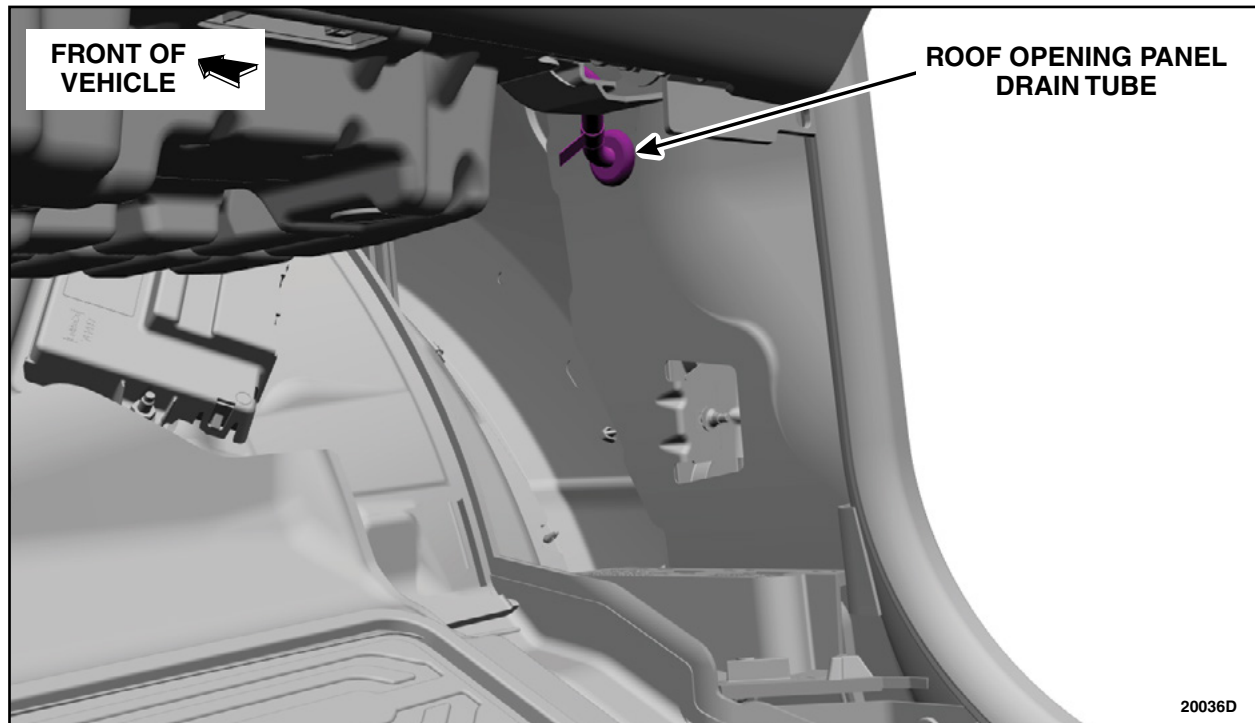

FIGURE 4
9. Locate the roof opening panel drain tube on the Right Hand (RH) side of the vehicle behind the BCM. See Figure 4.